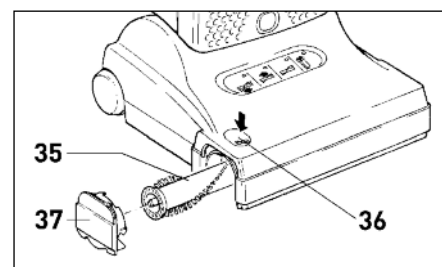
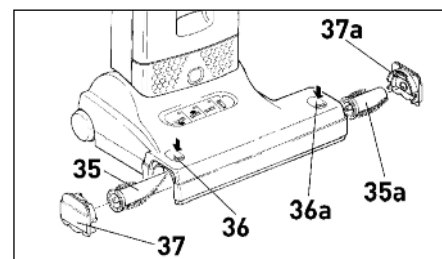

Figure 13 (X4)
Figure 13a (X5)
## Changing the Brush Roller(s) - Figure 13 (X4), Figure 13a (X5)
The sealing strip (39) is located just behind the brush roller opening. The sealing strip seals the power head to hard floors to prevent kick-back of debris while vacuuming. To replace a worn sealing strip, push the release button, remove the side plate (36 and 37 in figure 13 & 13a) and slide old strip out. Insert the new strip into the slot and slide into place.